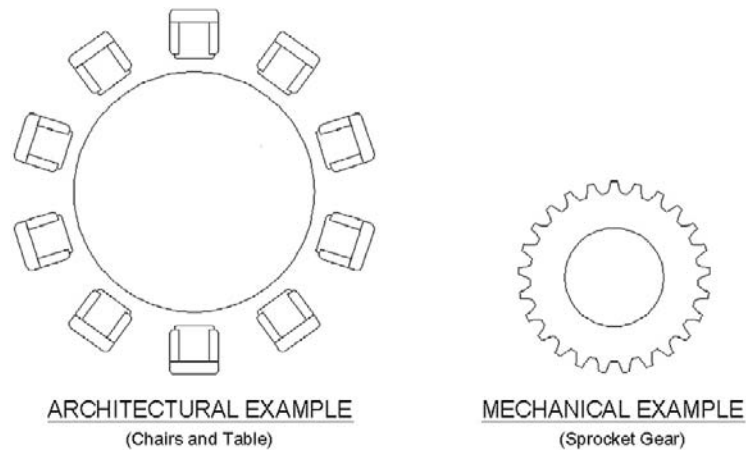

FIGURE 8.1
In mechanical engineering, an example may be teeth of a sprocket gear. You draw the circle representing the wheel of the gear; put in one tooth properly drawn, detailed, and centered on top; then Array to get the full gear. Figure 8.1 shows illustrations of what was just discussed. There are of course many other examples.
Step 8. Important: Before you press OK, press Preview < , which allows you to see the results of what you did without committing to the final array. If you want to modify some feature of the array, then press Esc and return to the main dialog box, and if not, then press Enter, and you are done. You should see an array similar to the example in Figure 8.1.